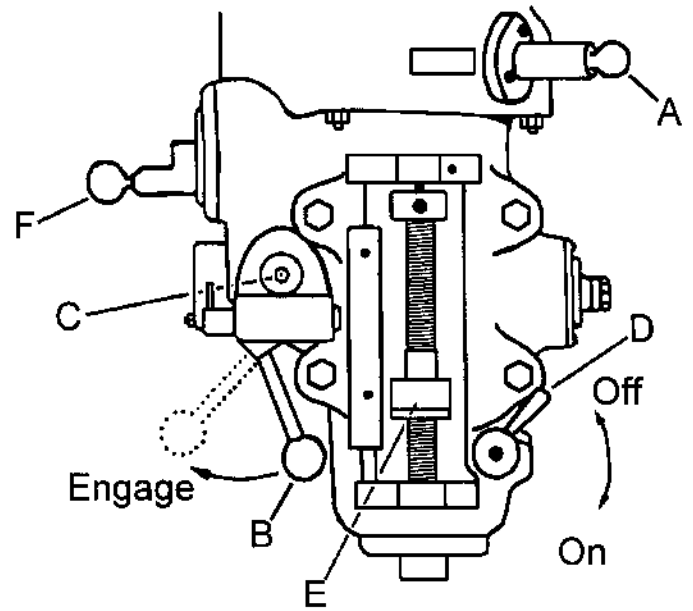

Fig. 8
5. Select feed direction (C, Fig. 8 & 9).
6. Engage feed trip lever (B, Fig. 8) by pulling away from head assembly.